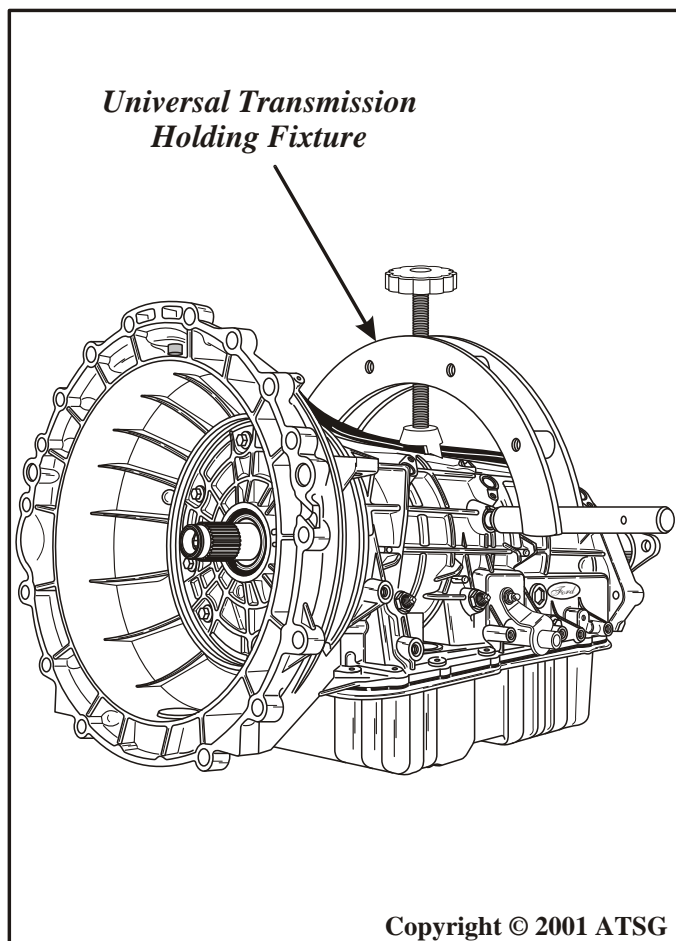

Figure 23
6. Install a compatible holding fixture onto the transmission case, as shown in Figure 23, that will allow you to rotate the transmission when installed in the bench fixture.